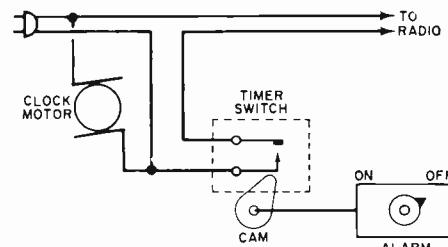

Fig. 10. Partial wiring diagram of a typical clock radio circuit showing timer switch.
**CHECKING THE CLOCK RADIO CIRCUIT** If you are working on a clock radio and are unable to get a.c. power for the set, you should check the clock radio line circuit and the clock timer switch for continuity. Figure 10 shows the line circuit of a typical clock radio. While there might be some difference in circuit details, basically all clock radio circuits will tend to have the same configuration.